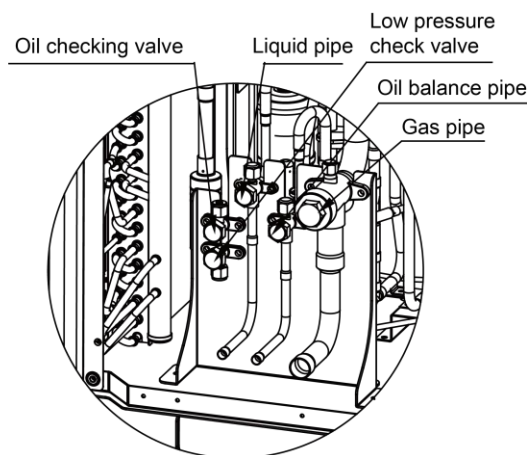

Fig.4.5.2
- (2) When there are more than 2 outdoor units, air purging from the nozzle located on the oil balance valve. Confirm outdoor oil balance valves are closed. See Fig.4.5.2.